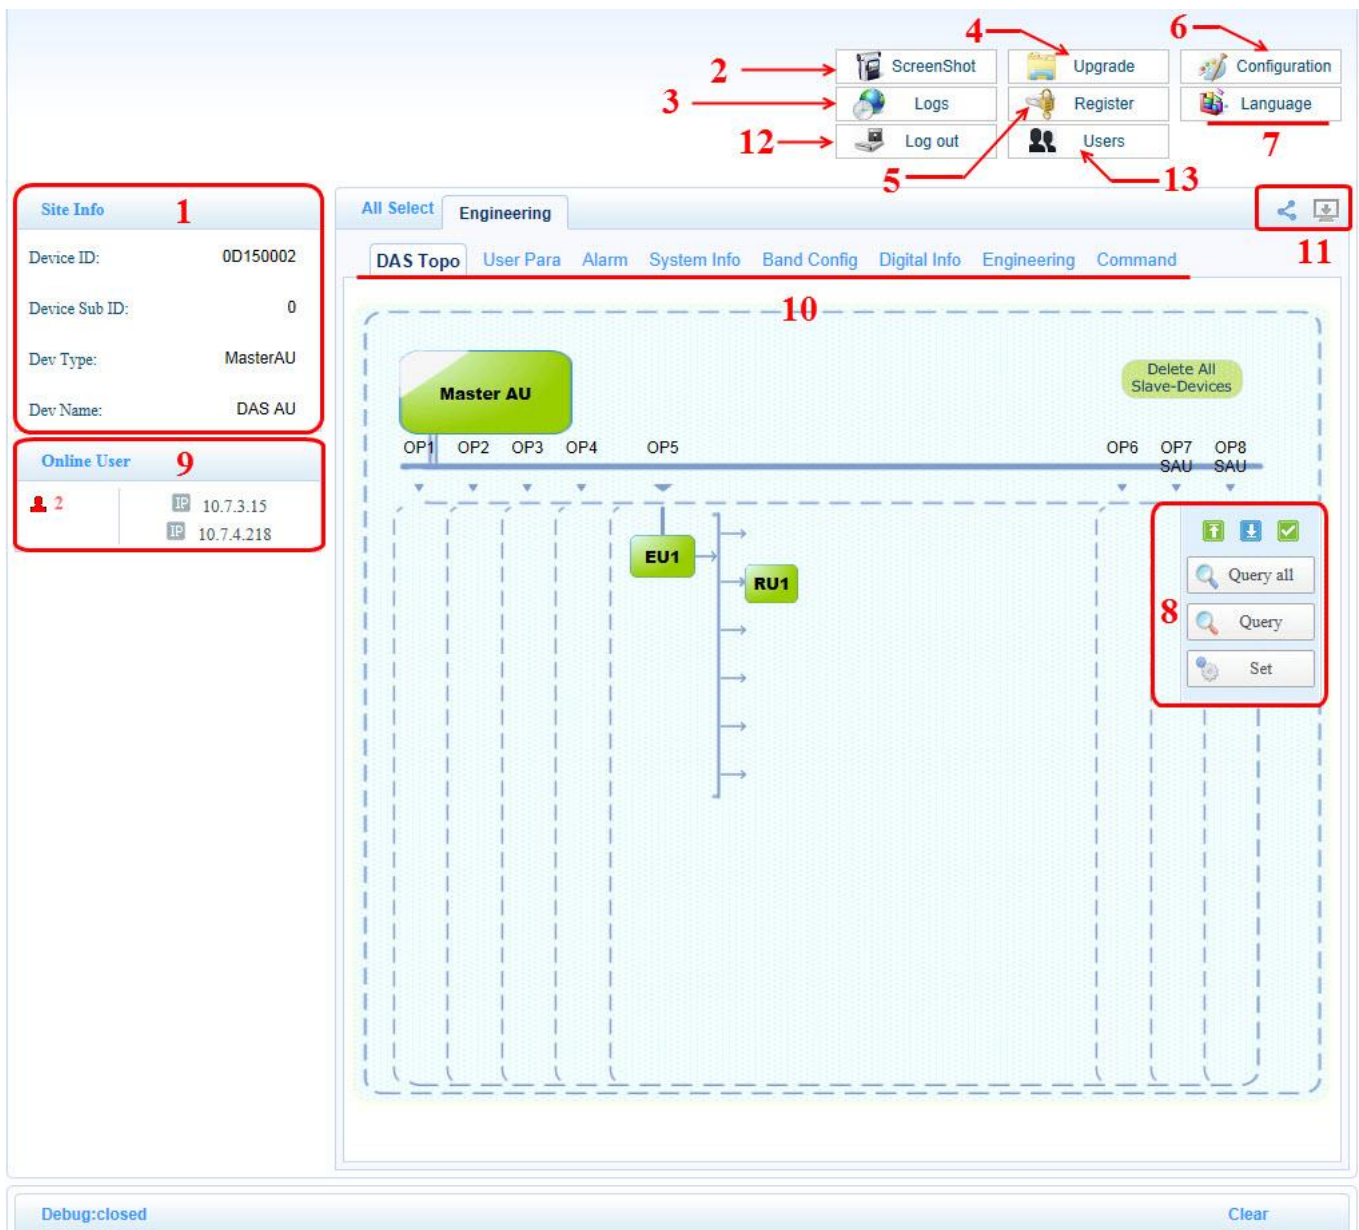

Figure 2-11 WebOMT Homepage
Figure 2-11 shows the OMT homepage. The buttons, tabs and fields are referenced by number and are described below the figure.
The OMT homepage includes the following buttons, tabs and fields (refer to corresponding numbers in Figure 2-11):
- b) Click the **ScreenShot** button. See 2 in Figure 2-11.
- d) Click the **Configuration** button. See 6 in Figure 2-11.